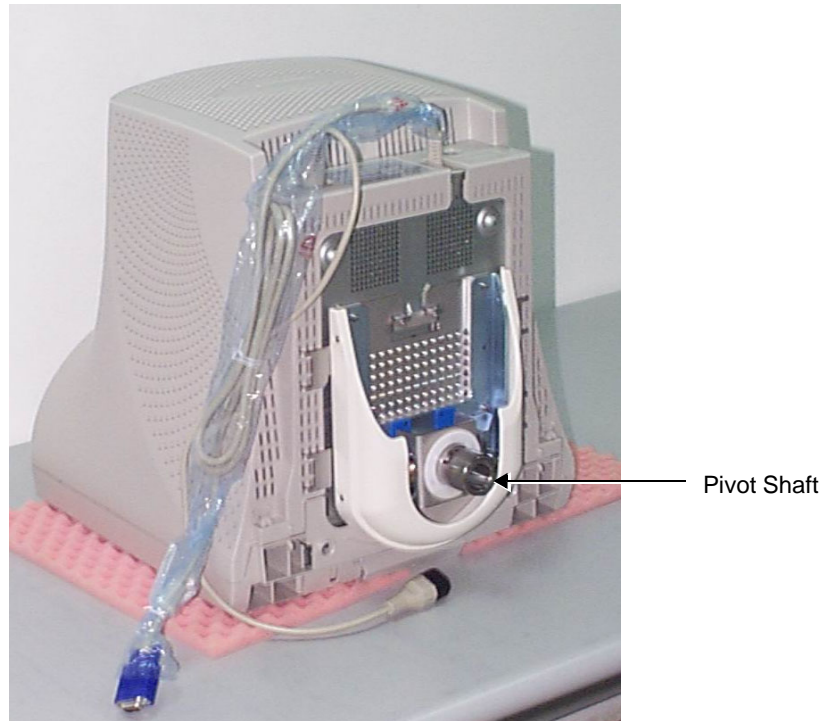

Figure 8-33 New Samsung 17" Monitor - Viewed from Underside
- 1.) In the upright position, carefully lift the new monitor and insert its pivot shaft (see Figure 8-33) through the Teflon washer and into the hole on the monitor base.